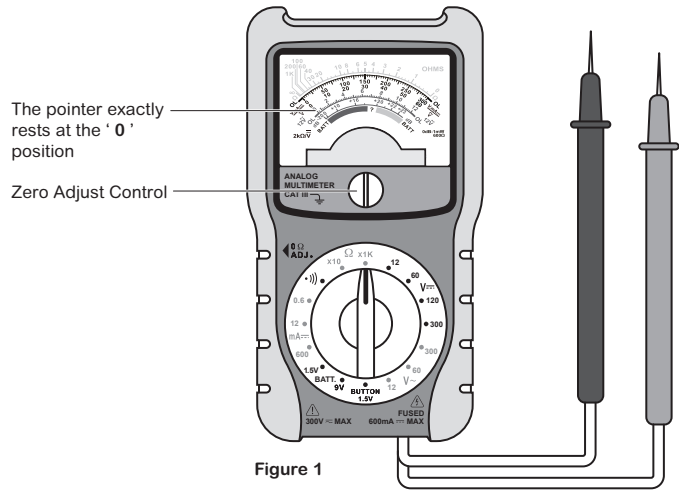

Figure 1
- 1. Before measurement, check the pointer to see if it is directly over the '0' position of the ' $\frac{VmA}{V}$ ' scale (or the ' $12\bar{V}$ ' scale), and if not, adjust the pointer with the zero adjust control (see Figure 1).